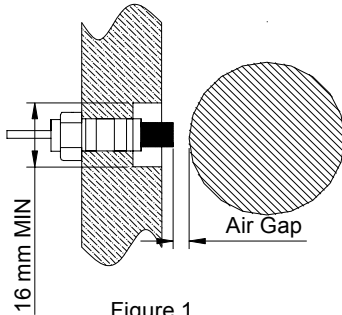
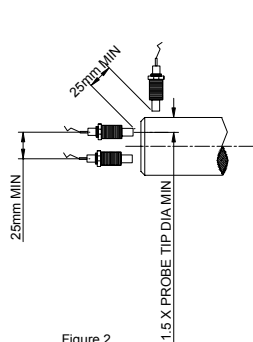

Figure 1
Figure 2
- 1) Please mount the probe in axial direction for TR4102 Proximity Loop-powered Transmitter for Thrust Position monitoring system. Keep the distance between probe tip and shaft about 0.05" (1.25mm). In order to avoid wrong output, please make sure there is enough distance between probe tip and the other metal material which is monitored. The least distance is 0.63" (16mm), please refer to Figure 1. For exact gapping procedure see the section **Set-up Procedure** of chapter **Operation**. When mounting two probes adjacently, the two probes should keep 1" (25 mm) at least as shown in Figure 2.